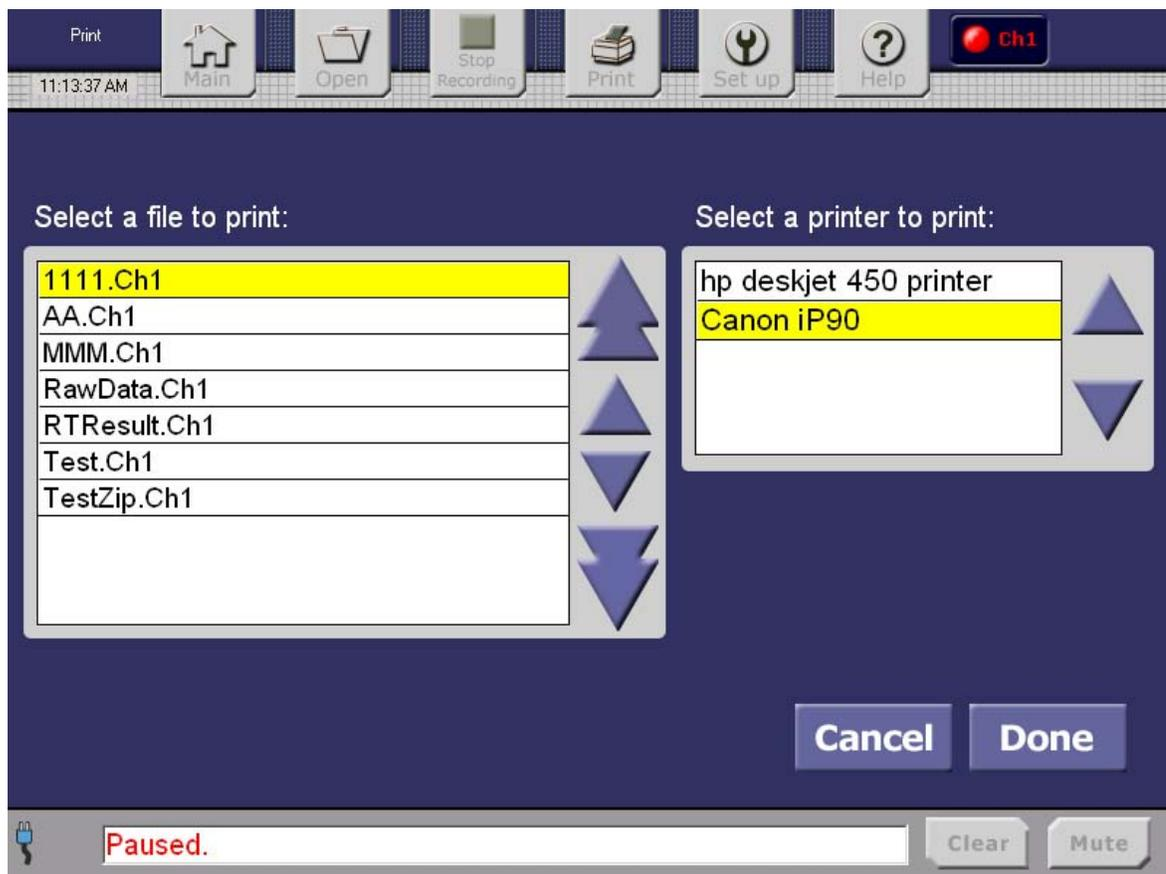

Figure 38. Print File Screen
1. From the Control Bar at the top of the screen tap the **Print** button. A list of files, sorted in alphanumeric order, is displayed. Up to 10 file names are displayed at one time. Refer to Figure 38.